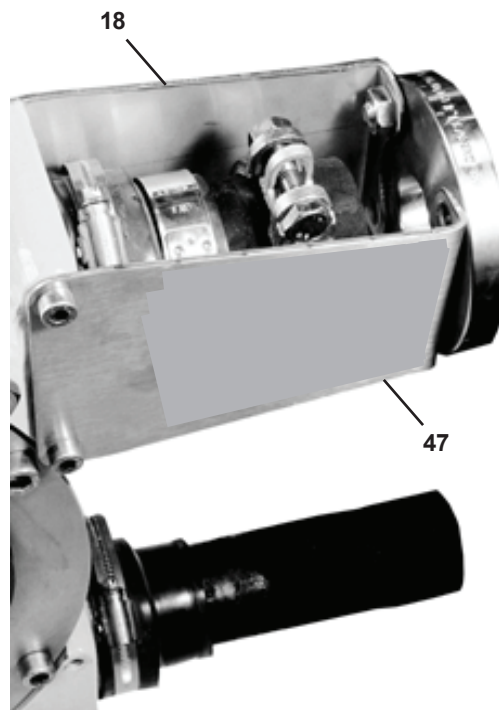

Figure 9
6. The shoes mounted on the wheel are going to “swallow” the hose and push it out of the inlet port. Jog the motor to bring the hose against the flange (47). See Figure 9.
7. Assemble the clamps (8) and (9) on the inlet side. Mount the insert (12) into the hose. Tighten clamps.